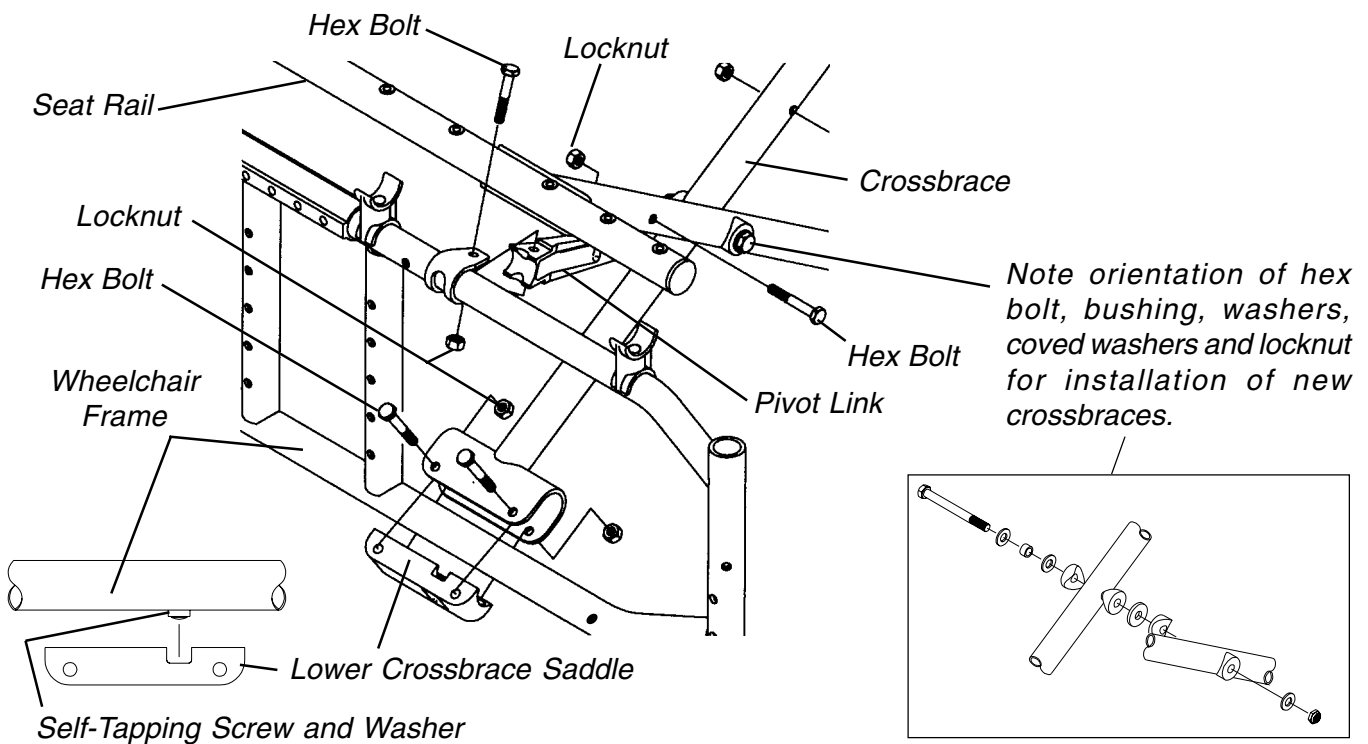

FIGURE 4 - CHANGING SEAT WIDTH - STANDARD FOLDING FRAMES
Standard Folding Frames (FIGURE 4)
6. Assemble the two (2) new crossbraces together. Refer to **FIGURE 4** for hardware orientation.
NOTE: Position the crossbrace saddle on wheelchair frame using the self tapping screw and washer on the underside of wheelchair frame as reference. Refer to FIGURE 4.